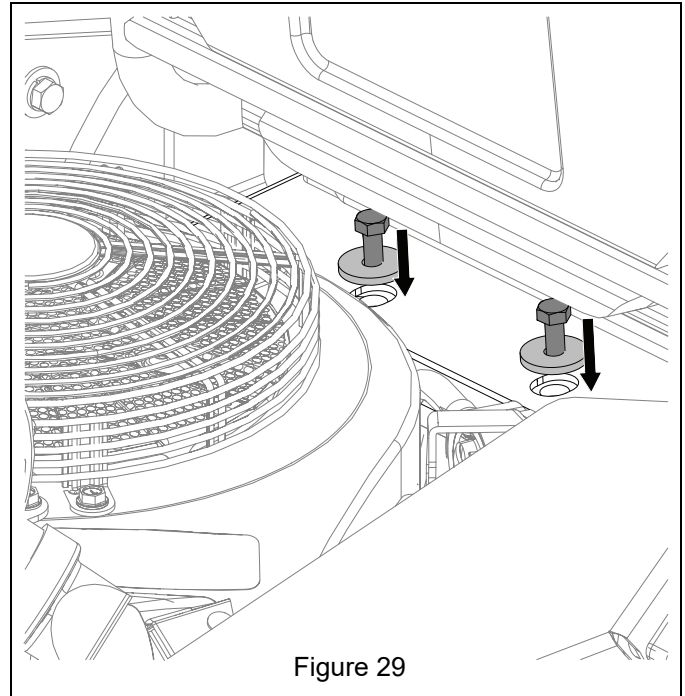

Figure 29
- Return seat assembly to operating position and reinstall two flat washers and two hex bolts. See Figure 29.